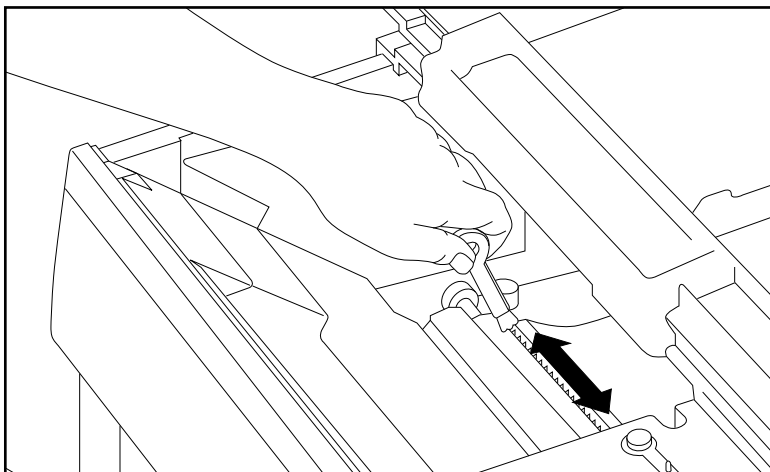

Fig. 8.2 Clean the Anti-Static Teeth
- a. Locate and remove the green cleaning brush inside the right side of the printer (fig. 8.2).
- b. Locate the anti-static teeth and slide the cleaning brush back and forth across them several times to remove residue (fig. 8.2).